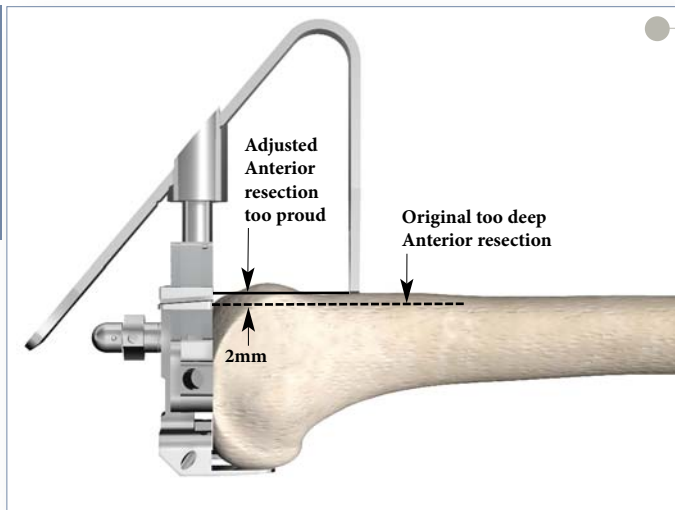

Figure 16
- ▶ This will shift the position of the peg holes 2mm anteriorly, raising the level of the anterior resection and preventing notching of the anterior cortex (Figure 16). However, it will remove an additional 2mm of bone from the posterior condyles, increasing the flexion gap. **Care must be taken to properly balance the flexion and extension gaps in this situation.**